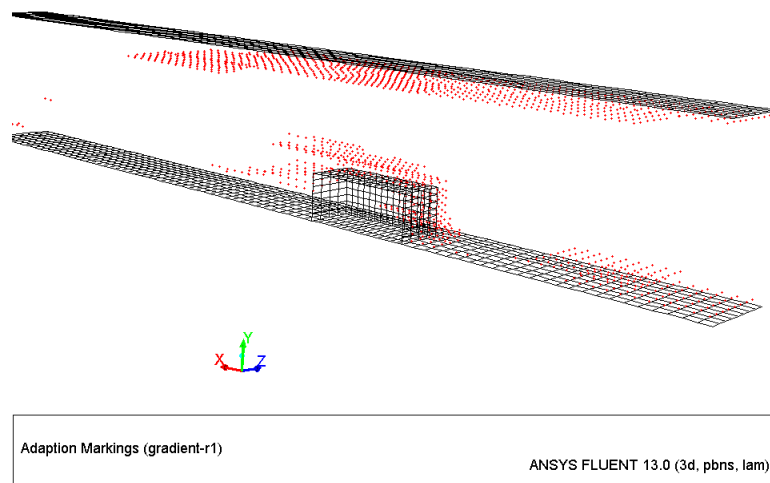

Figure 9: Cells Marked (approx. 1550) for Velocity Gradient Adaption
- (e) View the cells marked for velocity gradient adaption (Figure 9).